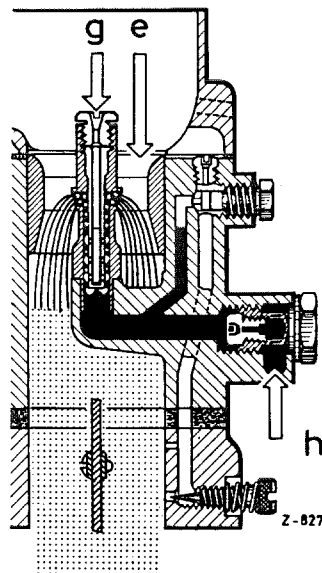

Fig. 07-0/9
When the fuel level in the mixing tube holder decreases as a result of the increasing partial vacuum, i. e. at higher engine speed, compensating air enters through the air correction jet (11) which, through the small bores in the mixing tube mixes with the fuel flowing through the main jet. With increasing engine speed the proportion of air in the mixture increases so that overenrichment of the fuel-air mixture is prevented and an almost uniform proportion of fuel to air is ensured over the whole speed range (Figs. 07-0/7 and 07-0/9).